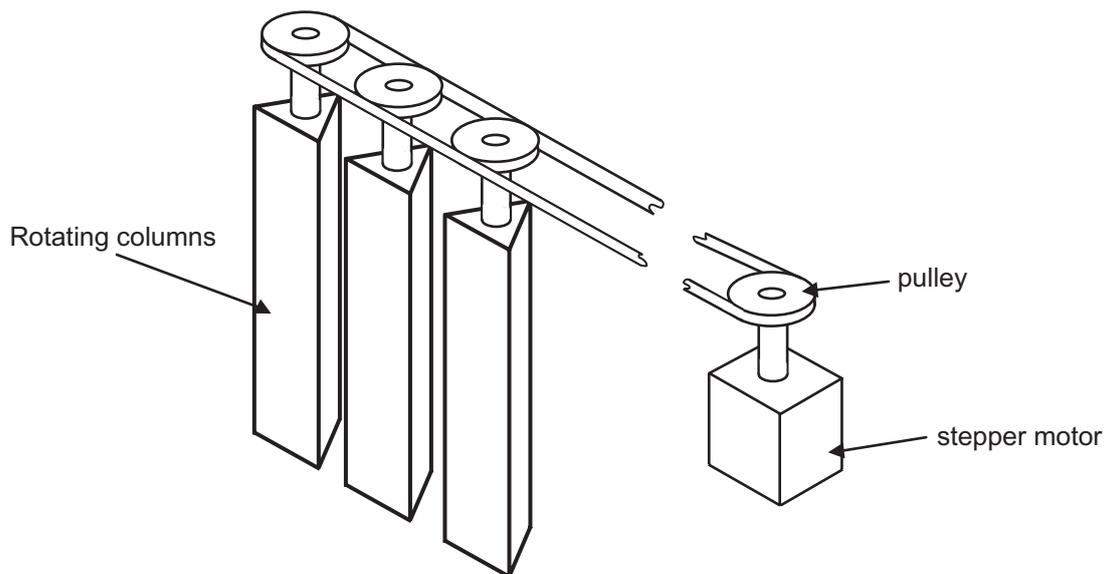

Fig. 1(a)
- (a) (i) The stepper motor shown in **Fig. 1(a)** has a step angle of 7.5° . Determine the number of steps required to rotate the motor by 120° . [1]